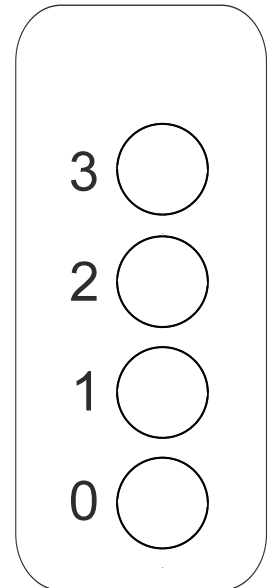

Fig.9
1. Speed is controlled by the piano switch.(Fig. 9)